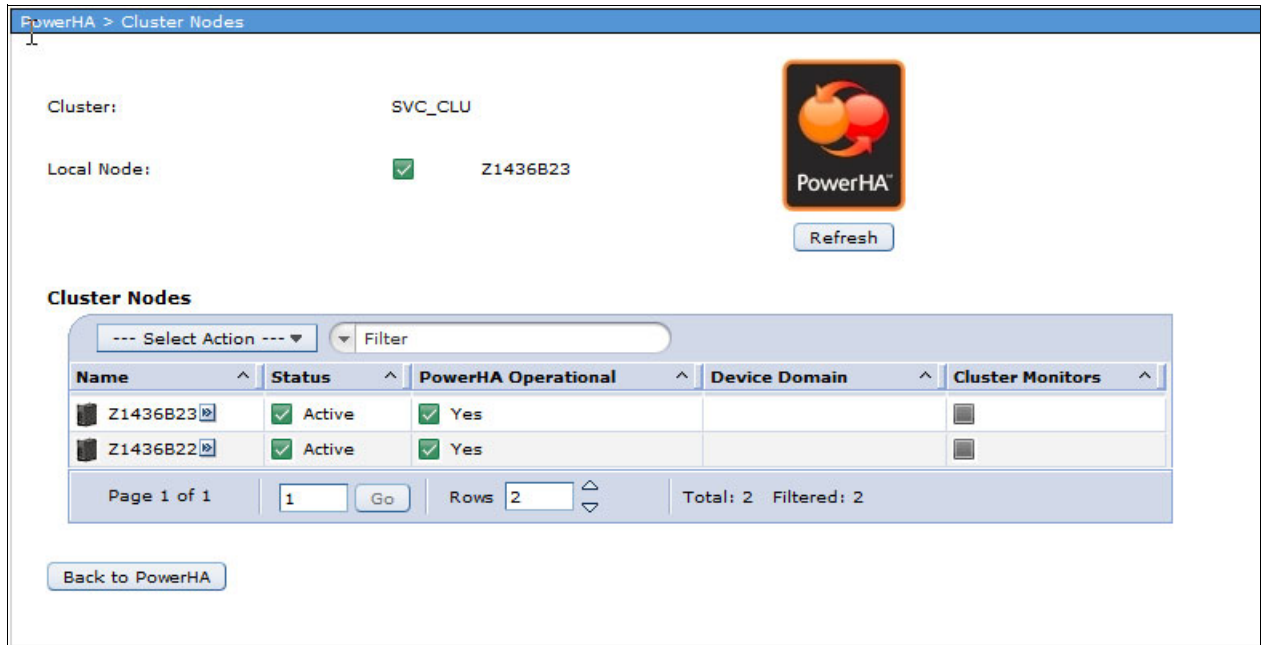

Figure 4-16 Nodes in the cluster
13. Figure 4-16 shows the two nodes of the cluster that was created in this example. Currently, there is no device domain that is specified for the two nodes. The device domain is needed so that you can switch an IASP between the nodes.